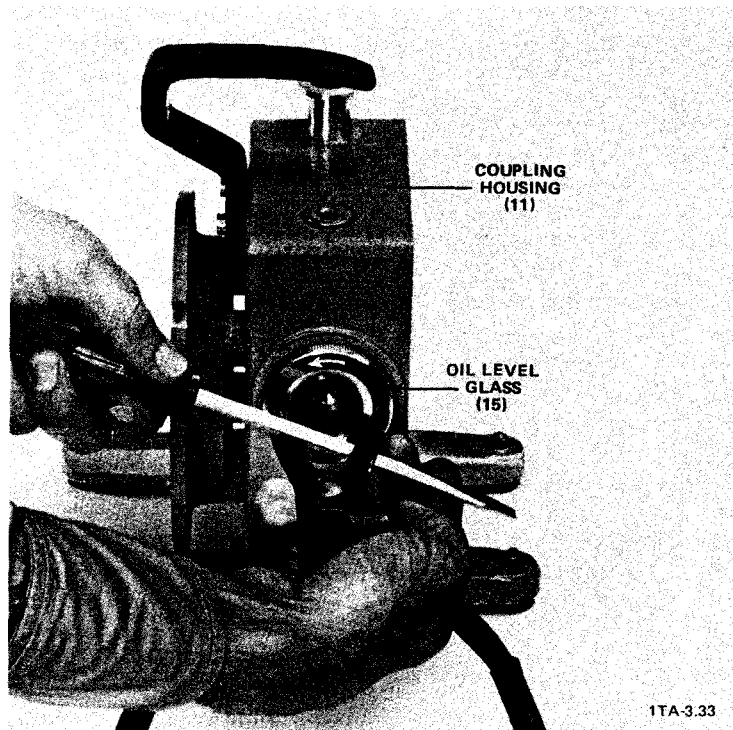

Figure 5-16. Removing the Oil Level Glass (15) From the Coupling Housing (D2A Pump Model Shown)
Method (2) – Place the nose ends of a large pair of snap ring pliers into the two holes in the assembly (15); insert a screwdriver or small bar between the nose ends of the snap ring pliers; use the screwdriver or bar to force the pliers and the assembly to turn counterclockwise; unscrew the assembly from the coupling housing (see Figure 5-16).